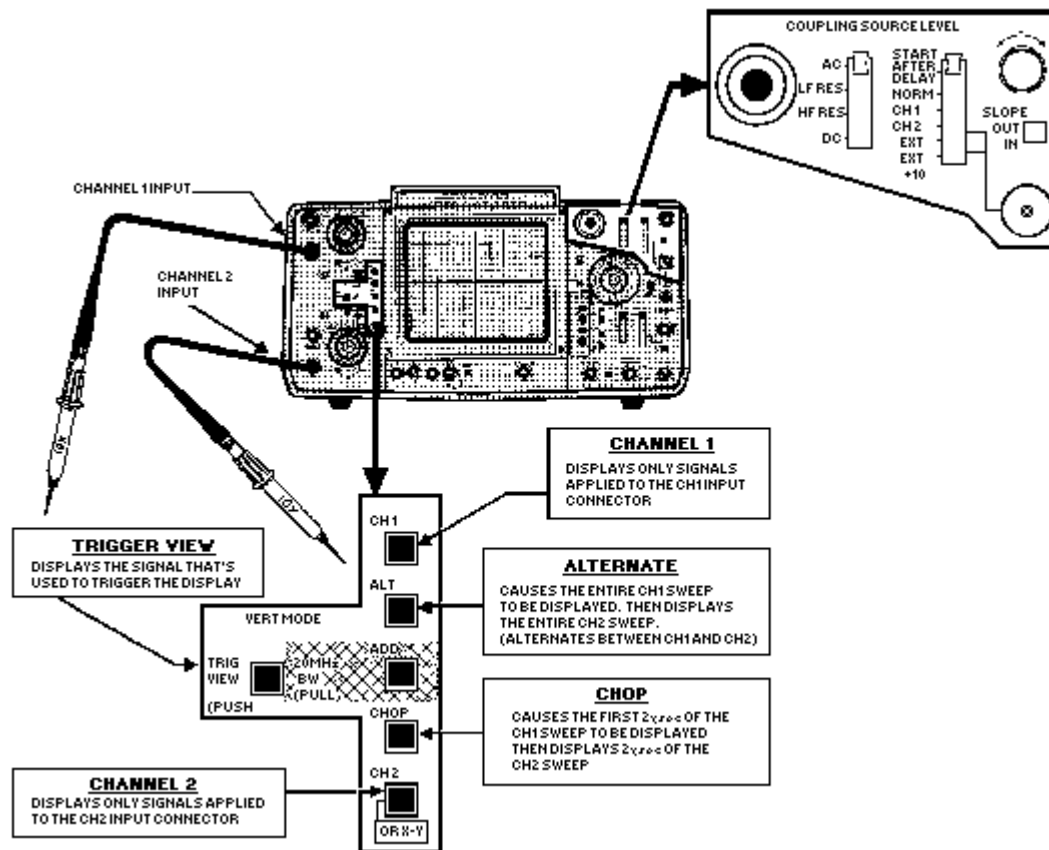

Figure 6-34.—Components to select vertical operating mode.
The VERT MODE controls (figure 6-34) allow you to select the operating mode of the scope for vertical deflection.
**ADD.**—The ADD switch (shown earlier in figure 6-34) algebraically adds the two signals of channels 1 and 2 together for display.
Most dual-trace oscilloscopes have both an A and B time base for horizontal sweep control. Notice in the upper right corner on our example scope (figure 6-34) the COUPLING, SOURCE LEVEL, and SLOPE controls. These serve the same function as did those same controls in the A time-base section of the scope. The B time base is selected using the same A and B TIME/DIV control (pull out outer knob).